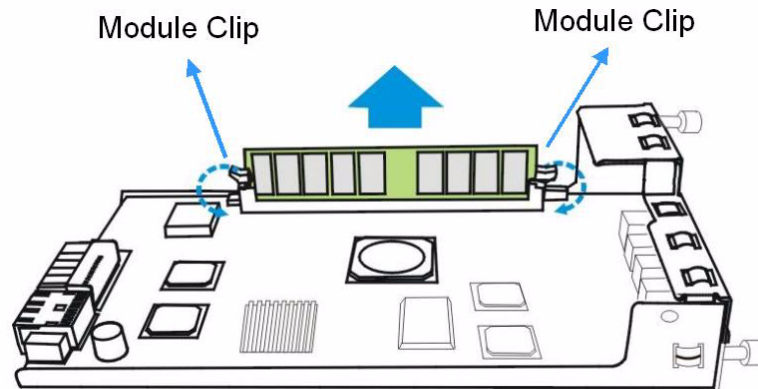

Fig. 6.2 Push Back the Module Clips on the Sides of the DIMM Socket
2. Remove the previously installed DIMM module from the DIMM socket. To do this, push the white module clips on the sides of the DIMM module down together. By doing this, the previously installed modules will be ejected from the DIMM socket. (See *Figure 6.2*)
3. Gently retrieve the DIMM module out of the DIMM socket. (See *Figure 6.2*)